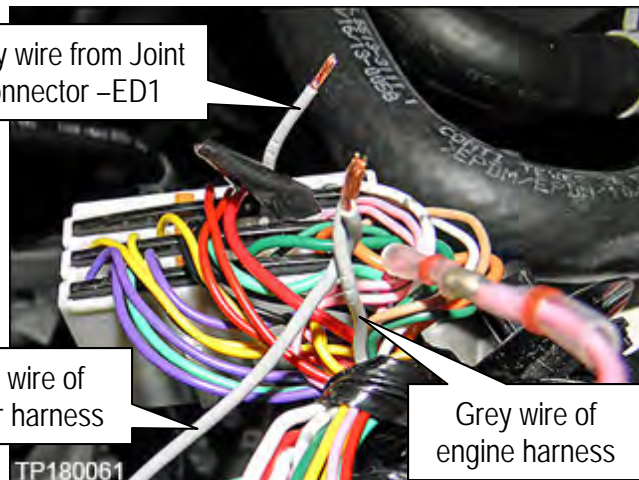

Figure 38
42. Twist together the grey wire of the engine harness that was cut in step 32 with the grey wire of the jumper harness as shown in Figure 38.